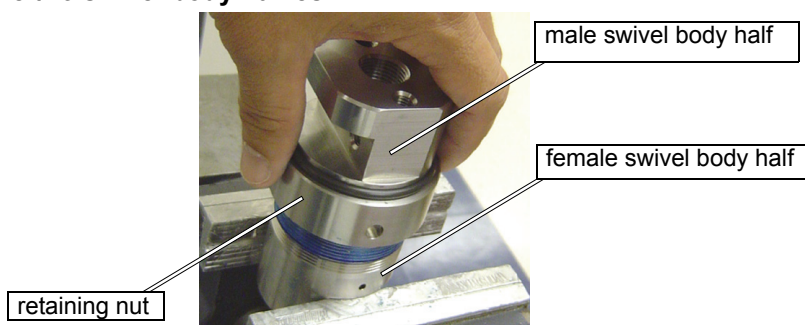

Figure C-26: Assemble the Two Swivel Body Halves
1. Place the female half of the **swivel body** in the soft jaws vice (Figure C-26), apply **Blue Goop** and assemble the two **swivel body halves**.